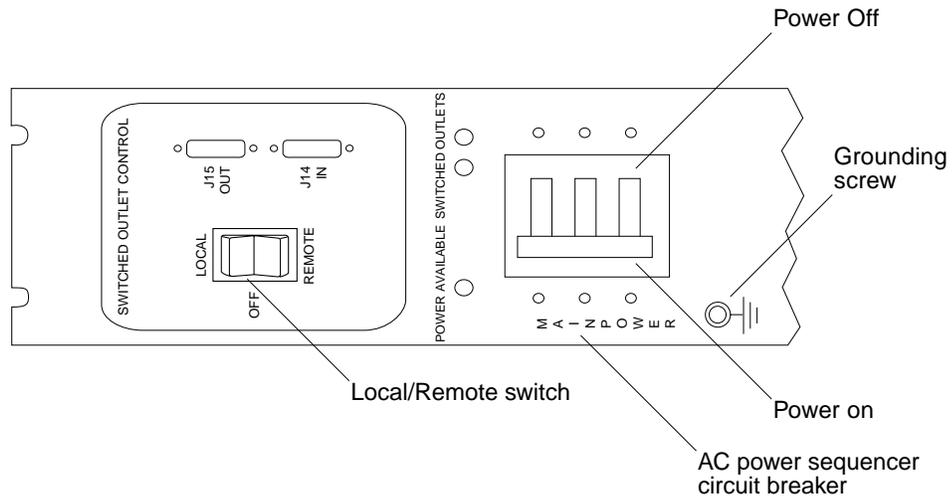

FIGURE 4-2 AC Power Sequencer Control Panel
- 2. Push the AC power sequencer circuit breakers at the bottom front and bottom back of the storage system to Off (FIGURE 4-2).**
4. Push the Local/Remote switch on the storage system to Local (FIGURE 4-2).
5. Press the AC power sequencer circuit breakers on the storage system to On (FIGURE 4-2).
3. **At the bottom of the storage system(s), remove the trim panels and push the AC power sequencer circuit breakers to Off (FIGURE 4-2).**